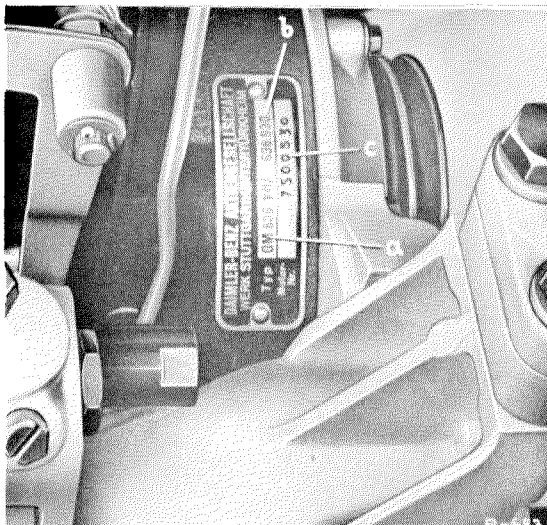

Figure 1
Location of engine plate with model identification, type identification, and engine serial number (see Figure 1 and 6).
1. The complete engine number [the model identification (a), the type identification (b), and the engine serial number (c), see Figure 1 and 4], e.g. OM 636 VII/636.930 7500530.